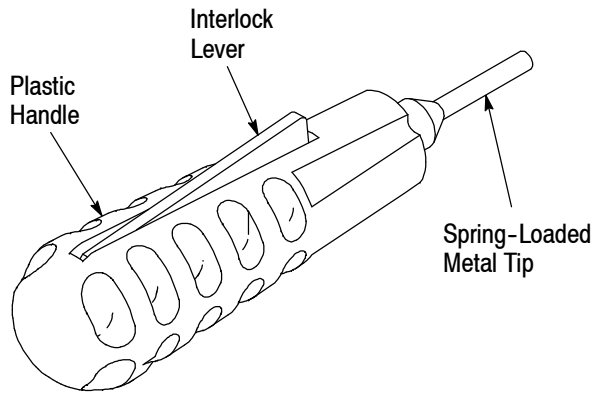

Figure 1
Extraction Tool 318837-1, shown in Figure 1, is designed to remove the .093 Commercial Pin and Socket contacts listed in Figure 2 from connector housings. Read these instructions thoroughly before attempting to remove any contacts.
**2. DESCRIPTION** (Figure 1)